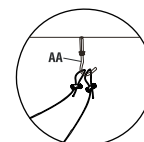

Figure 5
- Connect completed wires to each expansion hook (AA). (See Figure 5)